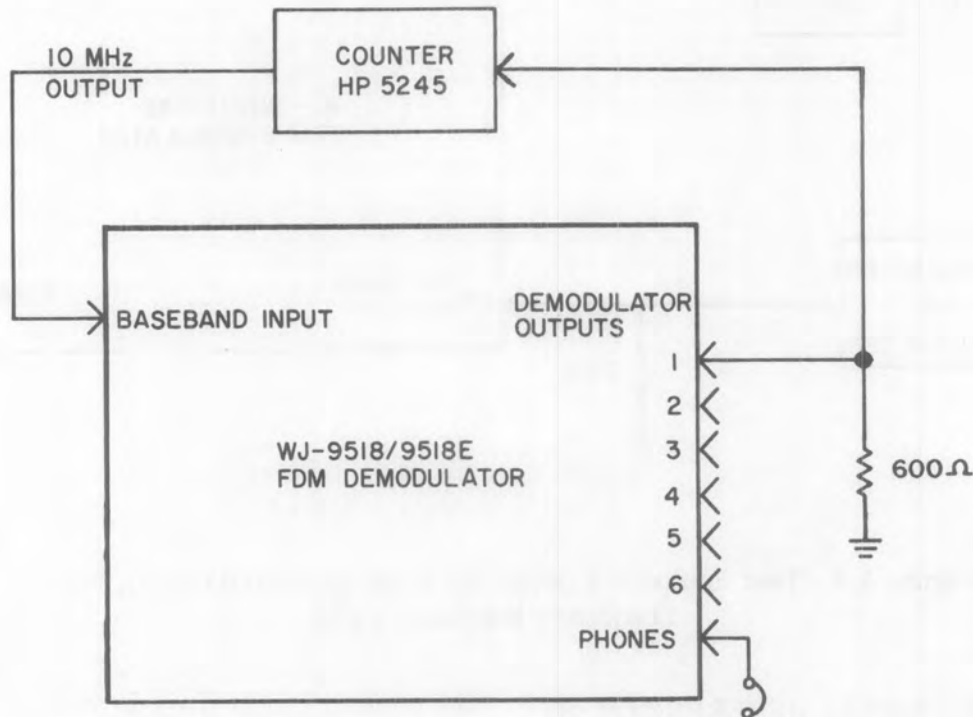

Figure 4-7. Test Equipment Setup for Internal Reference Accuracy Test
1. Use the test setup indicated in Figure 4-7.